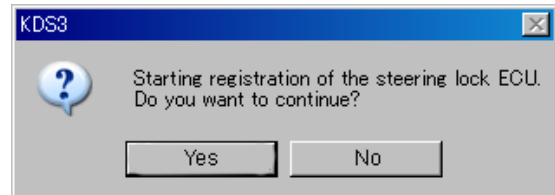

**Fig. 5-54 KDS Main Menu**
- Depress the steering lock switch but do not turn it, quickly connect the USB cable into the computer and select *With Smart System*. Fig. 5-54